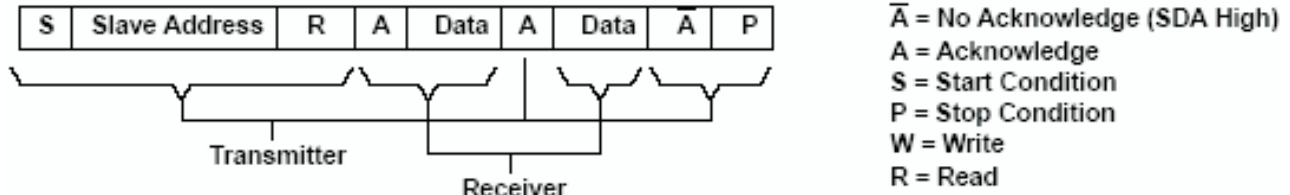
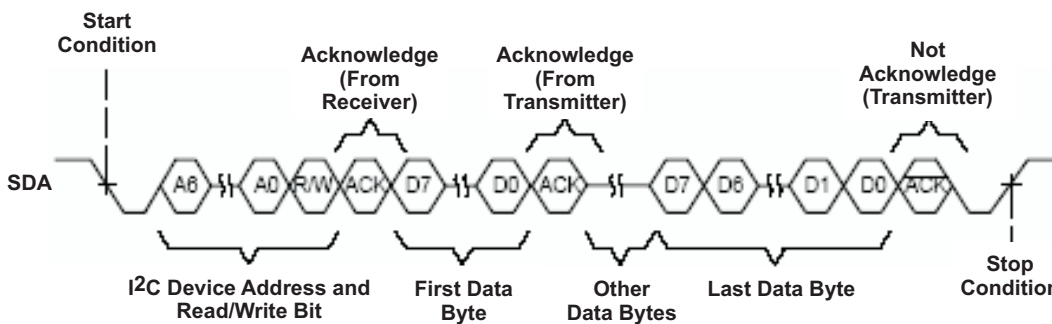

Figure 35. I²C Read Cycle
Figure 36. Multiple Byte Read Transfer
address. Following this initial acknowledge by the slave, the master device becomes a receiver and acknowledges data bytes sent by the slave. When the master has received all of the requested data bytes from the slave, the not acknowledge (A) condition is initiated by the master by keeping the SDA signal high just before it asserts the stop (P) condition. This sequence terminates a read cycle as shown in Figure 35 and Figure 36. See **Example – Reading from the SN75DP122A** section for more information.
The SN75DP122A operates using a multiple byte transfer protocol similar to Figure 36. The internal memory of the SN75DP122A contains the phrase *DP-HDMI ADAPTOR*<EOT> converted to ASCII characters. The internal memory address registers and the value of each can be found in Table 3.